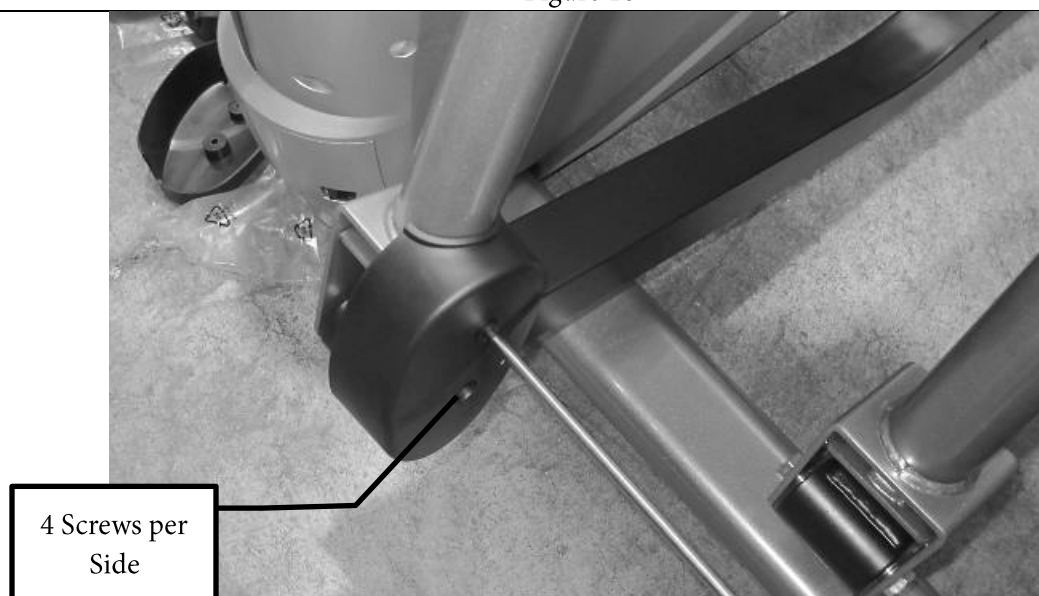

Figure 17
- b) Attach the Front Pedal Tube Covers using 8 M5x12mm screws. Figure 17